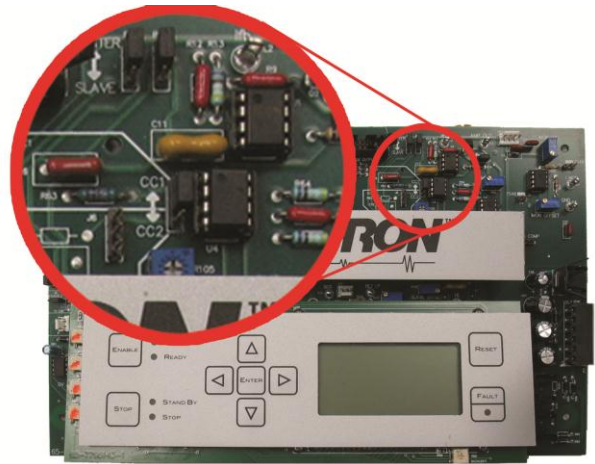

Figure 4.4 - Compensation Setting
When the 7548/7796 amplifier is used in Controlled Current (CC) mode, the current control loop is tuned with one of two available RC networks: CC1 (R63 and C16) or CC2 (R82 and C25). Place jumper **J5** in the **UP** position to select the **CC1 network** (factory default). Place jumper **J5** in the **DOWN** position to select the **CC2 network**. See **Figure 4.4**.